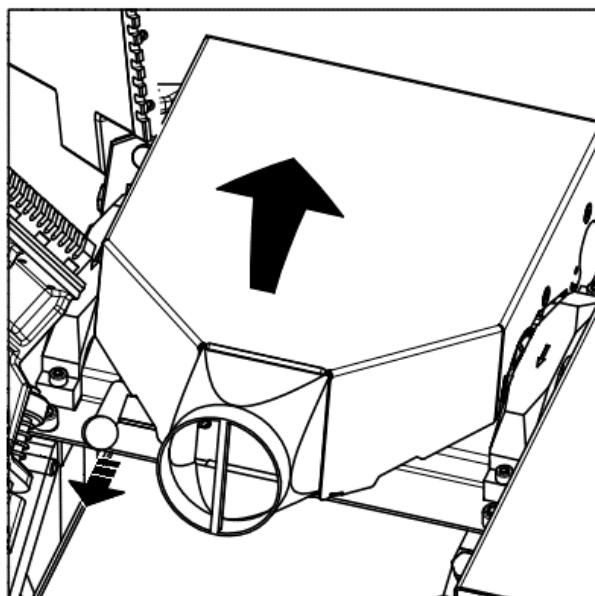

Fig 13
- 2 To close the tables: Swing the suction/guard cover back over the planer shaft. Pull the clamp (Fig. 13) and tilt the cover. (Fig. 12.4) onto the planer spindle.